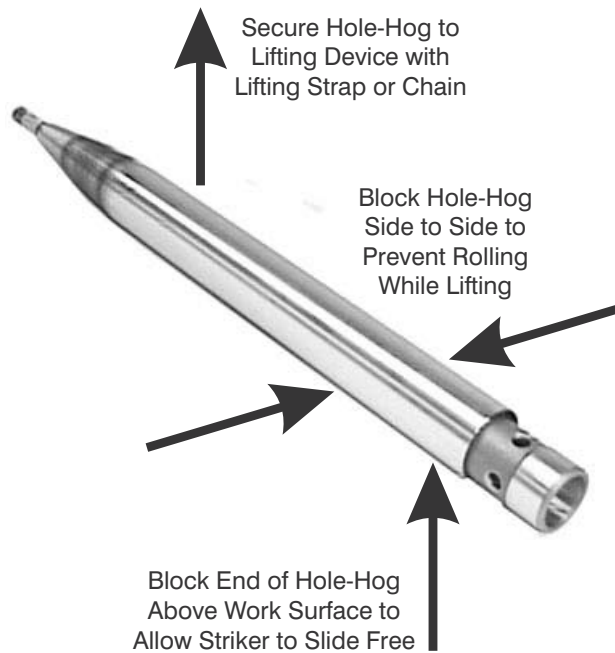

Figure 8-5. Tilting the body/anvil to Access the Striker.
- b. Tip the Body/Anvil (1) so the end of the Striker (2) slides out of the Body/Anvil about six to eight inches. (Figure 8-5).